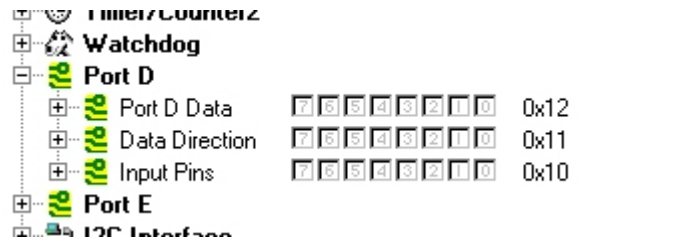

Figure 6: PORTD
2. Single step another instruction (F10). How is PORTD configured? Use **Figure 6** to show your answer.